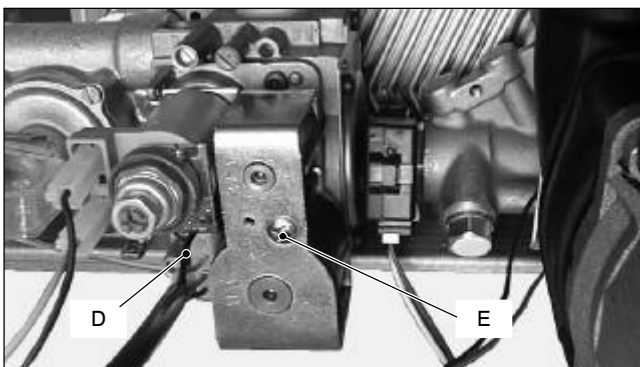

Fig. 45
- 2 Disconnect the connector *D* (Fig. 45).